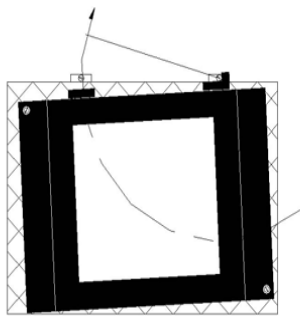

Figure 7 Aligning the plate holder
- g. Using the "L" side's stage pin as a pivot point, slightly rotate the plate holder until the flat alignment plate is against its associated stage pin. (Figure 7)